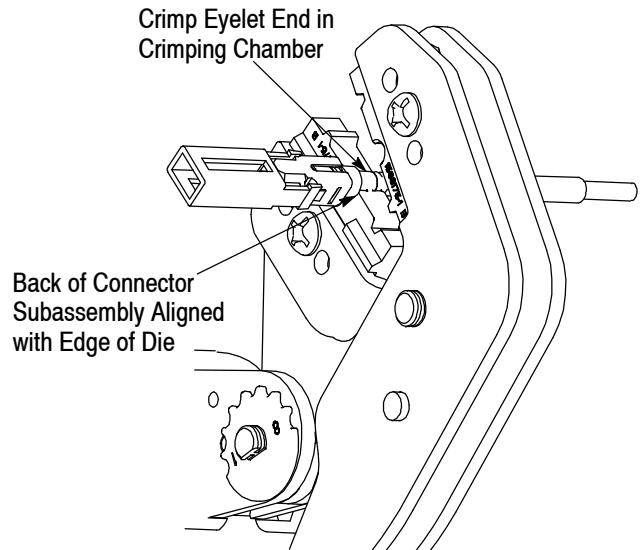

Figure 6
1. Taking care not to break the fiber, insert the fiber into the rear body and support tube of the connector subassembly until the fiber buffer bottoms on the base of the ferrule. The end of the cable jacket should be just short of the rear body and the fiber should extend approximately 6.4 [.25] from the endface of the ferrule. See Figure 6, Detail A.
2. Uniformly distribute the cable strength members around the rear body of the connector subassembly. See Figure 6, Detail B.
3. Slide the crimp eyelet/heat shrink assembly over the cable strength members until it bottoms on the connector subassembly. See Figure 6, Detail C.
4. Install the die into the hand tool frame. Position the crimp eyelet end of the crimp eyelet/heat shrink assembly into the crimping chamber of the die. Make sure that the connector subassembly is aligned with the edge of the die. Refer to Figure 6, Detail D.